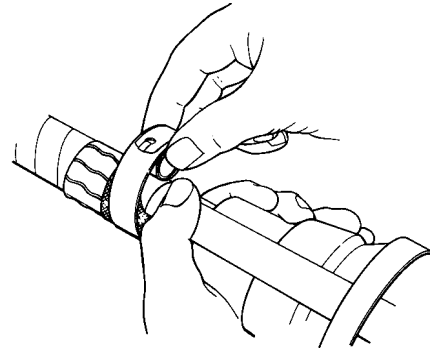

Figure 9
- c. Apply one complete length of #24 Metallic Shielding Tape (supplied) over ground wires directly beneath coil position (Figure 9).
- d. Hold the coil and shield strap in place with thumb (Figure 9).